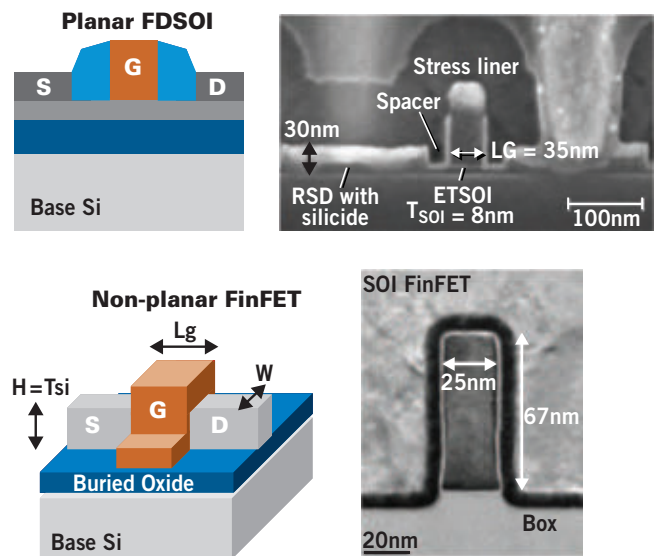

FIGURE 1. Examples of fully depleted devices: a) planar FD-SOI or ultra thin body UTB (TEM courtesy of IBM); b) 3D device FinFET (TEM courtesy of IMEC).
There is strong consensus in the IC community that fully depleted (FD) transistors, also known as Ultra Thin Body (UTB) devices, are an effective solution for reducing the V_T variability caused by random dopant fluctuation (RDF). FD devices can be vertical, (FinFETs, 3D MOSFET) [1], or planar (FD-SOI) [2, 3]. Their key characteristic is that the silicon channel is undoped (**FIGURE 1**).